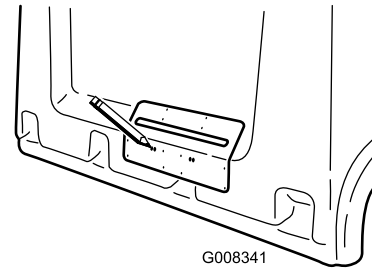

Figure 3
3. With the mounting plate still positioned on the hood, use it to locate and mark the (4) smaller inner holes which will be used for clearance holes for the latch lock nuts (Figure 3)